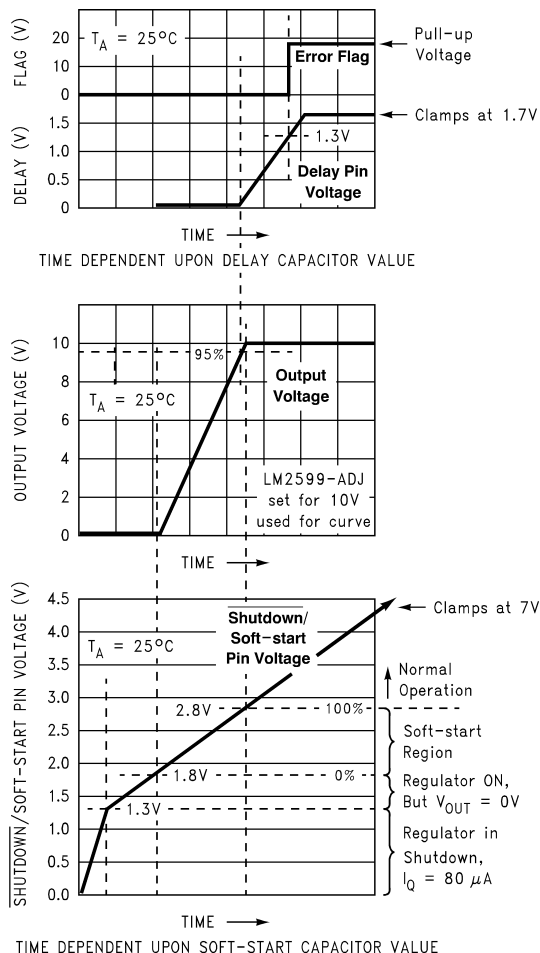
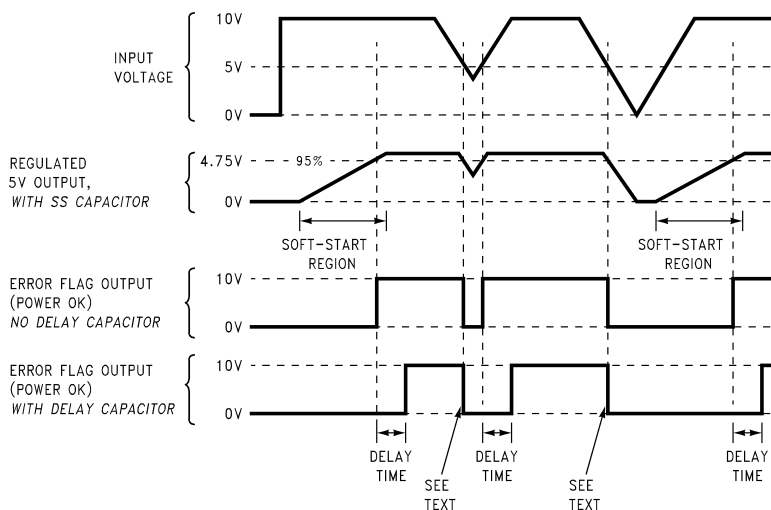

Figure 28. Soft-Start, Delay, Error, Output
Figure 29. Timing Diagram for 5-V Output
The capacitor on this pin provides the regulator with a soft-start feature (slow start-up). When the DC input voltage is first applied to the regulator, or when the Shutdown/Soft-start pin is allowed to go high, a constant current (approximately 5 μ A) begins charging this capacitor). As the capacitor voltage rises, the regulator goes through four operating regions (see the bottom curve in Figure 28):
3. Soft-start Region: When the $\overline{SD/SS}$ pin voltage is between 1.8 V and 2.8 V (at 25°C), the regulator is in a soft-start condition. The switch (Pin 2) duty cycle initially starts out very low, with narrow pulses and gradually get wider as the capacitor $\overline{SD/SS}$ pin ramps up towards 2.8 V. As the duty cycle increases, the output voltage also increases at a controlled ramp up (see the center curve in Figure 28) The input supply current requirement also starts out at a low level for the narrow pulses and ramp up in a controlled manner. This is a very useful feature in some switcher topologies that require large start-up currents (such as the inverting configuration) which can load down the input power supply.
The lower curve shown in Figure 28 shows the soft-start region from 0% to 100%. This is not the duty cycle percentage, but the output voltage percentage. Also, the soft-start voltage range has a negative temperature coefficient associated with it. See the soft-start section in Electrical Characteristics – All Output Voltage Versions.
This capacitor provides delay for the error flag output (see Figure 28 and Figure 29). A capacitor on this pin provides a time delay between the time the regulated output voltage (when it is increasing in value) reaches 95% of the nominal output voltage, and the time the error flag output goes high. A 3- μA constant current from the delay pin charges the delay capacitor resulting in a voltage ramp. When this voltage reaches a threshold of approximately 1.3 V, the open-collector error flag output (or power OK) goes high. This signal can be used to indicate that the regulated output has reached the correct voltage and has stabilized.